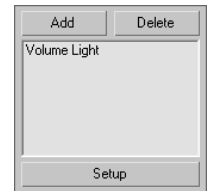

Figure 10.50
- 8. Quick Render your scene to take a look. Now you can see shadows. We didn't exclude the whole window with its frame because the inside frame is a nice detail to cast shadows. Figure 10.50 shows the render with the shadows.